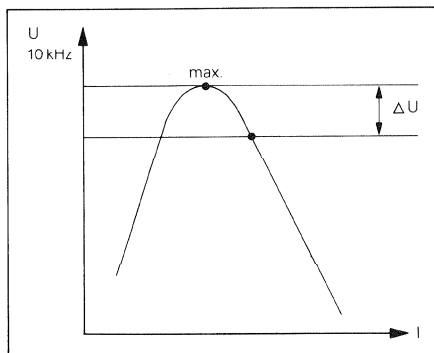

Fig. 6.4.-13
- Set operating controls as per fig. 6.4.-14.
- Connect audio millivoltmeter to OUTPUT L or R (51) respectively.
- Connect audio generator to AUX INPUTS (48) in parallel.